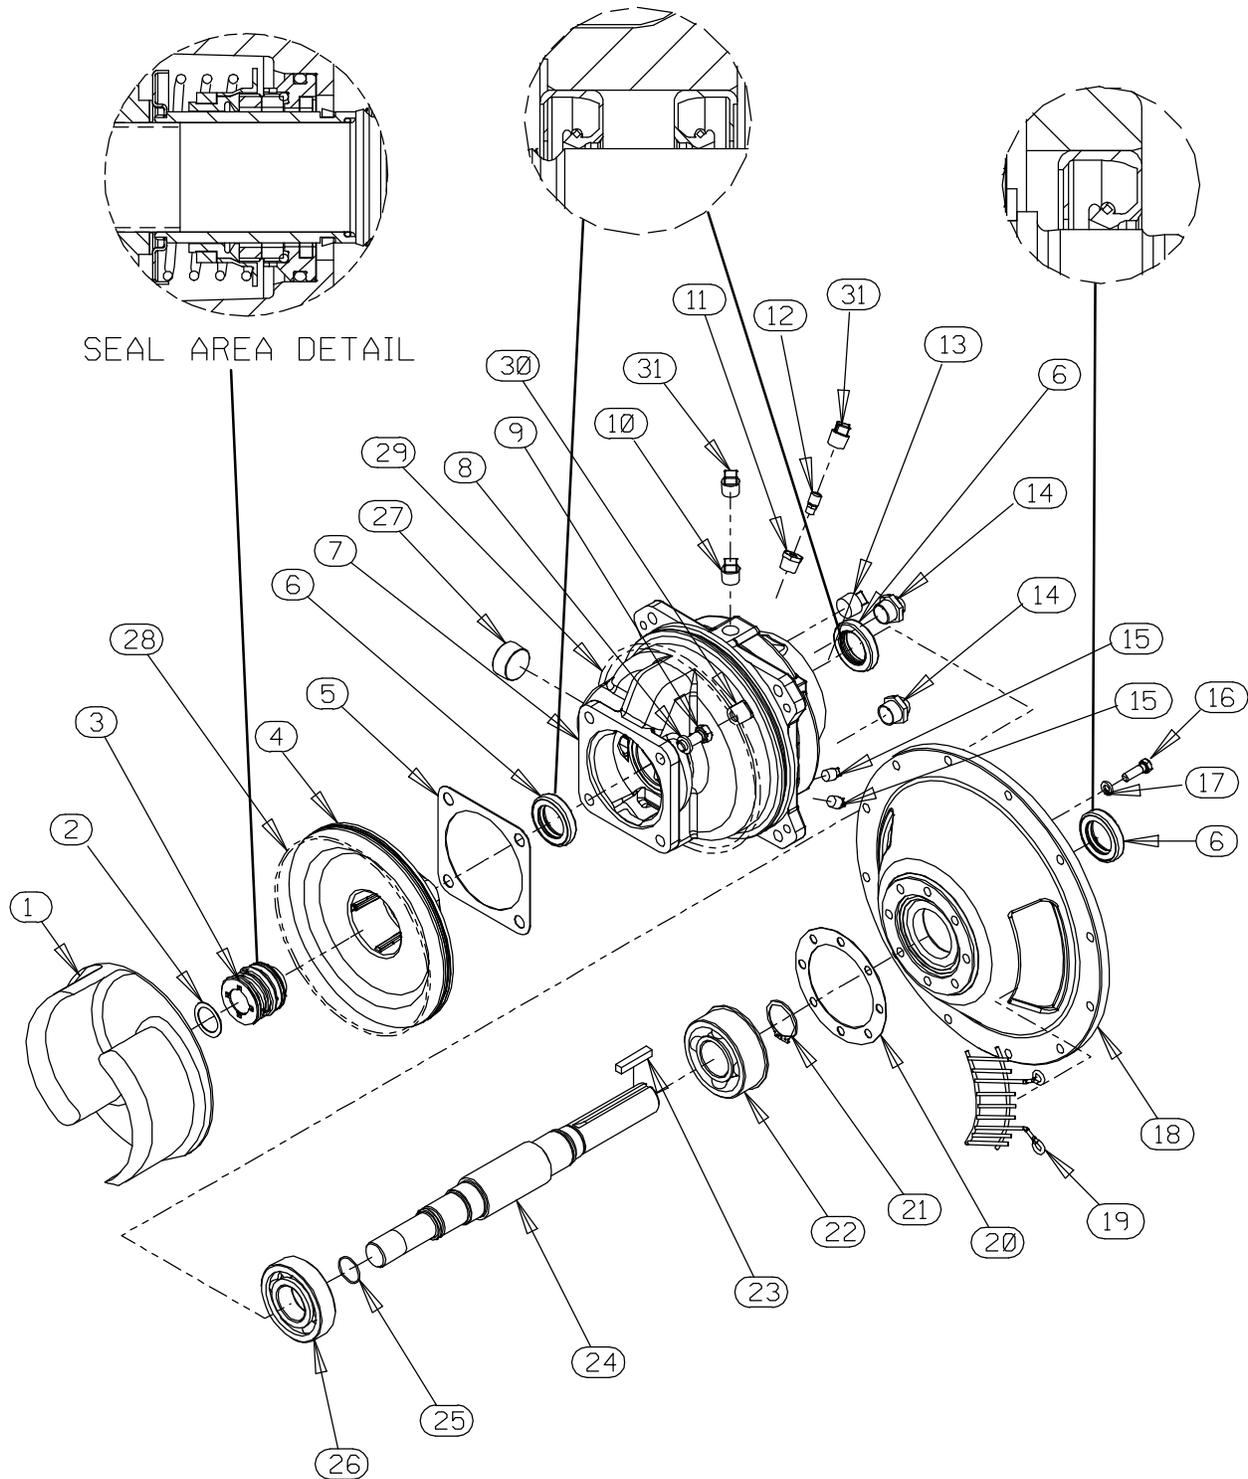

Figure 4. Repair Rotating Assembly
Disengage the hardware (not shown) securing the coupling kit (not shown) to the engine bellhousing, and remove the guards (19, Figure 4). Separate the pump end and drive assembly from the engine by pulling the pump end straight away from the engine.
As the assemblies separate, the flexible portion of the coupling assembly (2) will remain on the shaft. To remove the coupling from the shaft, unscrew the two allen head setscrews from the bushing (1). Screw one of the setscrews into the puller hole on the circumference of the bushing. As the coupling and bushing separate, remove the bushing, and slide the coupling off the shaft. Remove the shaft key (23, Figure 4).
(Figure 4)